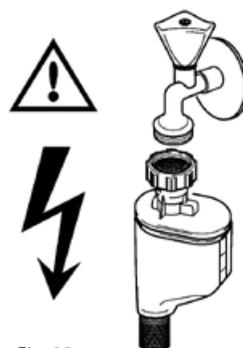

Fig. 22
- Connect the supply hose to a water tap with a 3/4" thread (Fig. 22). Make sure the supply hose is not bent, pressed or tangled.